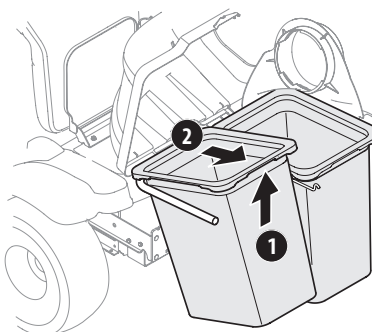

Figure 26
3. Remove the grass bags by lifting up, (1) in Figure 26, and moving the bags away from the bag support assembly (2).